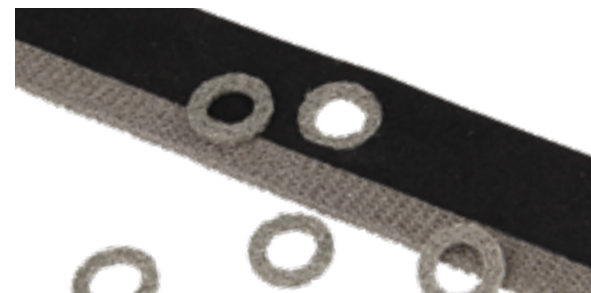

Figure 39: Combined gasket (Waterseal combined with EMC seal)
- 39 For bigger parts** it can be more efficient to use a combined gasket. An EMI gasket with a water seal made of neoprene, silicone or EPDM rubber. (Fig. 39)